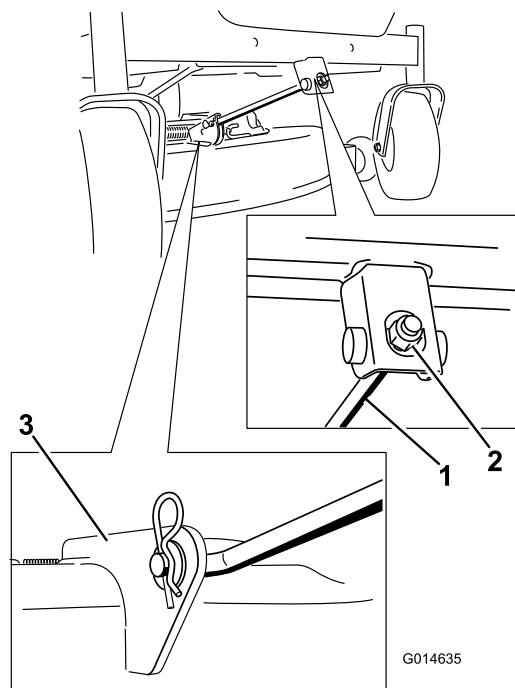

Figure 63
- 5. Remove the hairpin cotter from the front support rod, and remove the rod from the deck bracket (Figure 63). Carefully lower the front of the mower deck to the ground.
6. Attach the front support rod to the mower deck with the clevis pin and hairpin cotter (Figure 63).